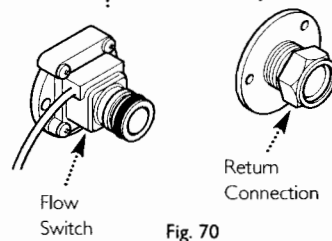

Fig. 70
3. Undo the screws securing the flow switch and return connections. Remove the flow switch and return connection (Fig. 70).